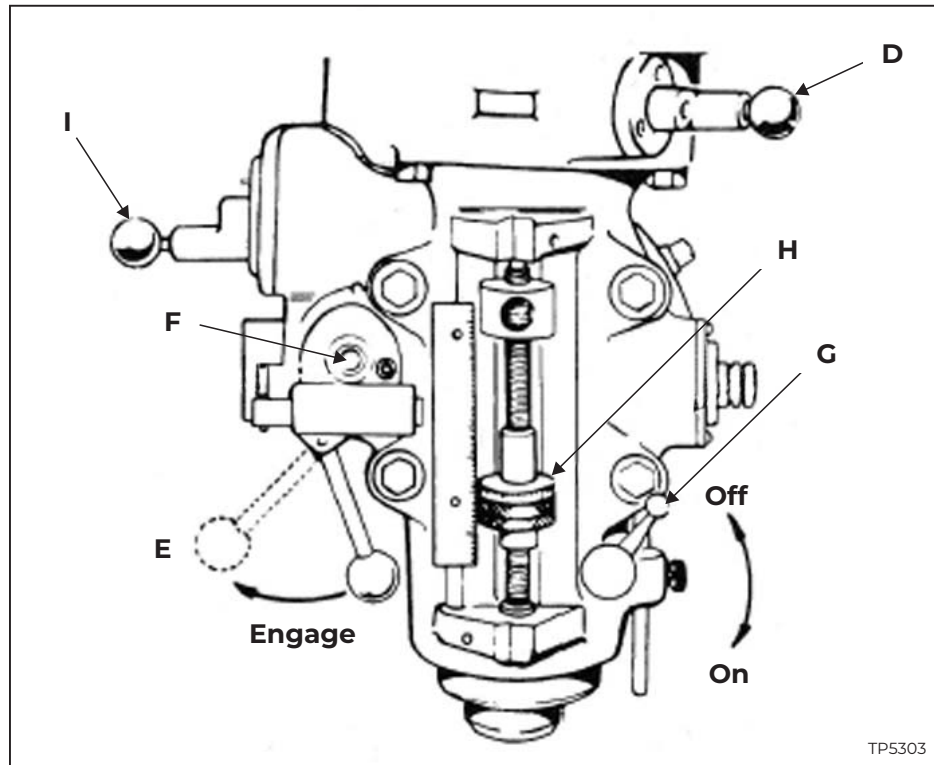

Figure 2.19 - Quill Feed
1. Disengage Auto Quill Feed "D", Figure 2.19